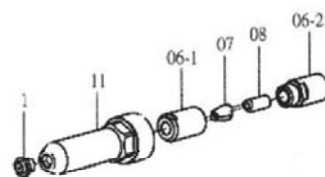

FIGURE 1
- Model SFR 720 REB (Fig. 1) - Insert the desired rivet nose in the head (3/16", 5/32", 1/8", 3/32");
- Model SFR 1400 REB (Fig. 1) - Insert the desired rivet nose in the head (3/16", 7/32" e 1/4"). For smaller rivet diameters, it's necessary to change the jaw pusher (08), jaw (07) and jaw case (06-1), as showed in the picture below: